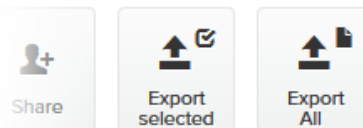

Figure 74. Plug-ins web page (code export controls)
4. To export only selected Activation codes, check the selection check-boxes to the left of each plug-in that must be included in the *.CSV file, then click the **Export selected** button. Alternatively, export all Activation codes by clicking the **Export All** button (Figure 74 \(page 155\)).